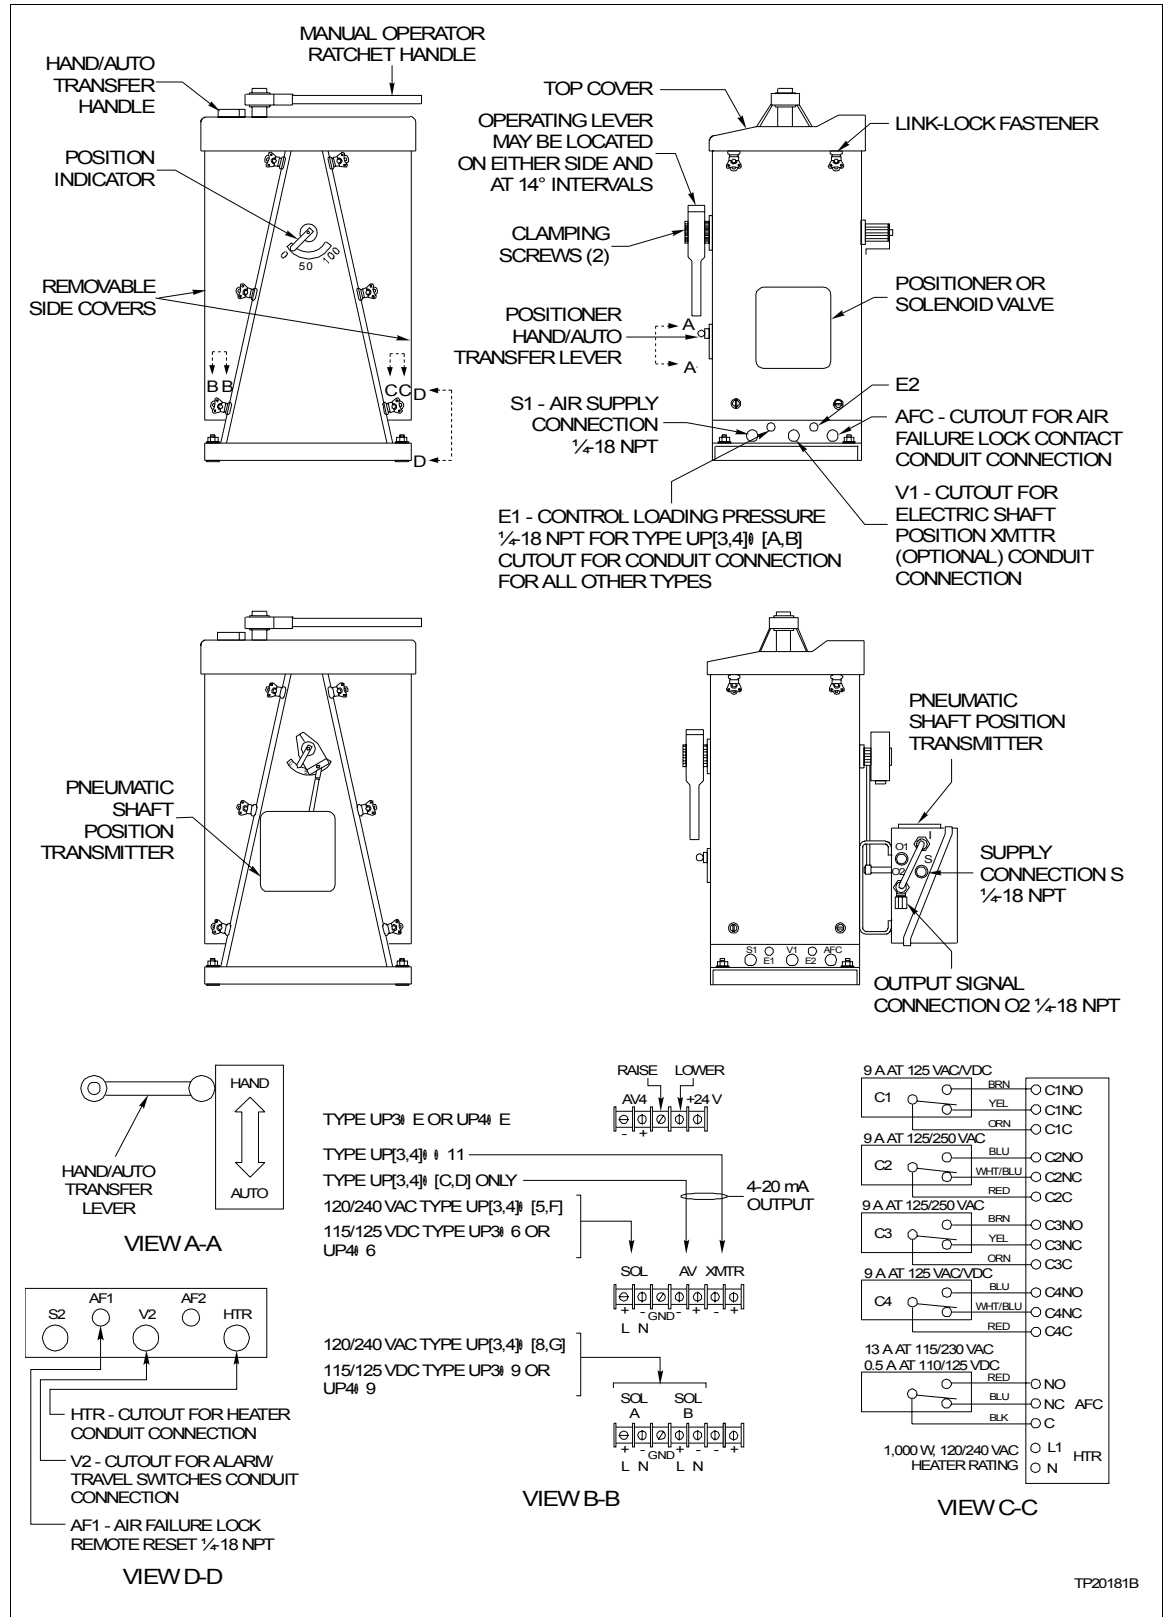

Figure 3-3. Types UP3 and UP4 Actuators
**NOTE:** Refer to Figure 3-3.